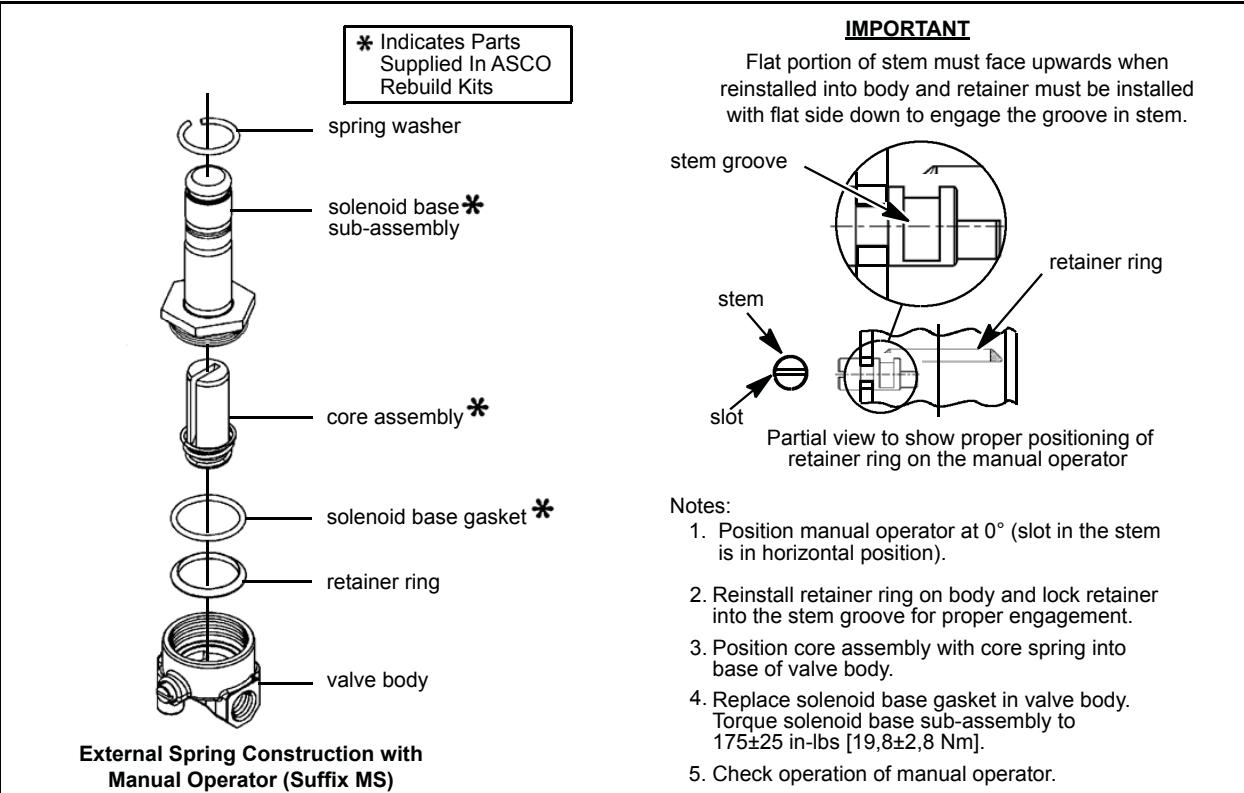

Figure 3. manual operator
Disassembly and Reassembly of Manual Operator (Refer to Figure 3)
- Panel Mounted Construction:** These solenoids are specifically designed to be panel mounted by the customer through a panel having a .062 to .093 maximum wall thickness. (Refer to Figure 3 and section on *Installation of Panel Mounted Solenoid*).